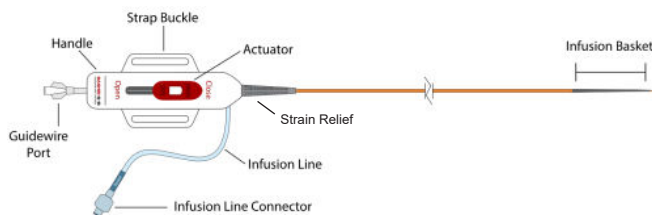
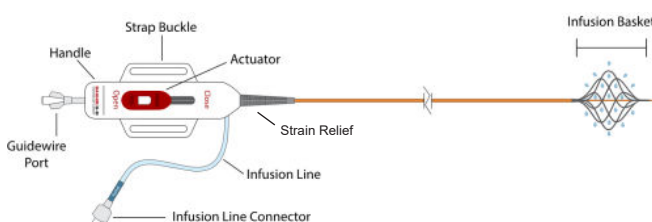

Figure 1. BASHIR® S-B Endovascular Catheter.
Figure 2. BASHIR® S-B Endovascular Catheter with infusion basket fully expanded.
The BASHIR® S-B Endovascular Catheter (Ref. No. 7101) is a device intended for mechanical thrombolysis using a controlled expansion of a distal infusion basket and localized infusion of physician-specified fluids, including thrombolytics, into the peripheral or pulmonary vasculature. The distal infusion basket is 10.00 cm (3.94 in) long in its unexpanded state and consists of an expandable basket with six (6) mini-infusion catheters, each with multiple infusion holes (Table 1). It is used for the delivery of the physician-specified fluids at multiple cross-sectional points of the target vessel at the location of the thrombus (Figure 1). The infusion basket can be expanded using the red actuator located on the handle at the proximal end of the device (Figure 2). After expansion, the mini-infusion catheters may be returned to their original closed positions by depressing the white button on the actuator and advancing the actuator toward the distal end of the device. The basket infusion line connector is also located on the handle.